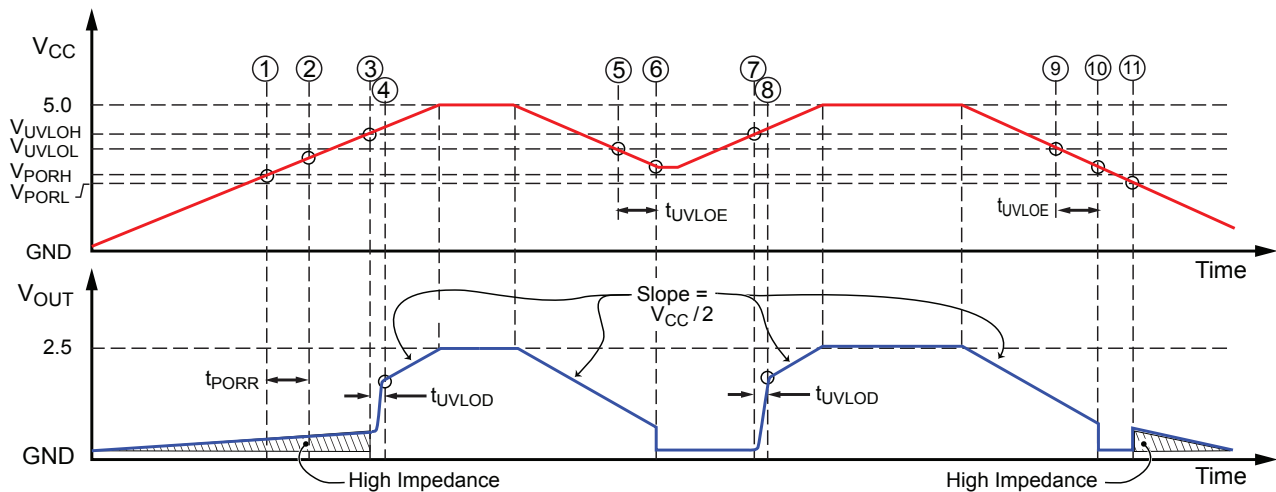
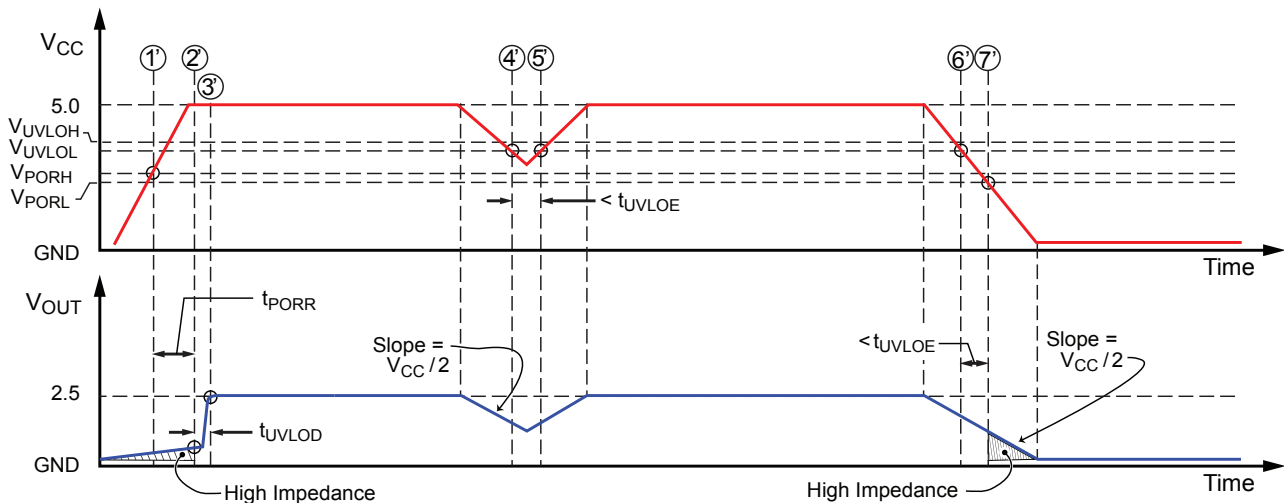

Figure 1: POR and UVLO Operation – Slow Rise Time case
Figure 2: POR and UVLO Operation – Fast Rise Time case
- Power-Up** At power-up, as V_{CC} ramps up, the output is in a high-impedance state. When V_{CC} crosses V_{PORH} (location [1] in Figure 1 and [1'] in Figure 2), the POR Release counter starts counting for t_{PORR} . At this point, if V_{CC} exceeds V_{UVLOH} [2'], the output will go to $V_{CC}/2$ after $t_{UVLOD} = 14 \mu s$ [3']. If